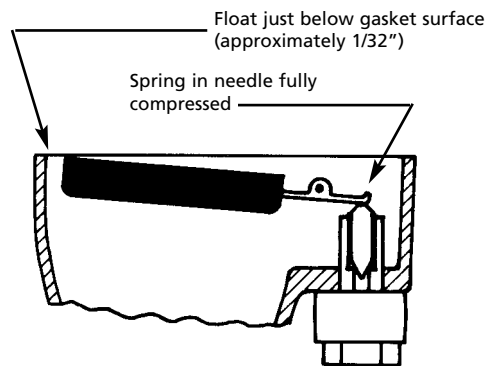

Figure 1
6. On rubber mounted engines, set float where it just misses bowl gasket, S&S PN 11-2086, when fuel inlet needle is fully closed and spring in needle is compressed. **See Figure 1.** To check, remove bowl and raise float until needle is in closed position and spring in top of needle is compressed. Highest part of float should be slightly (approximately 1/32") below bowl gasket surface. Float must not contact bowl gasket.